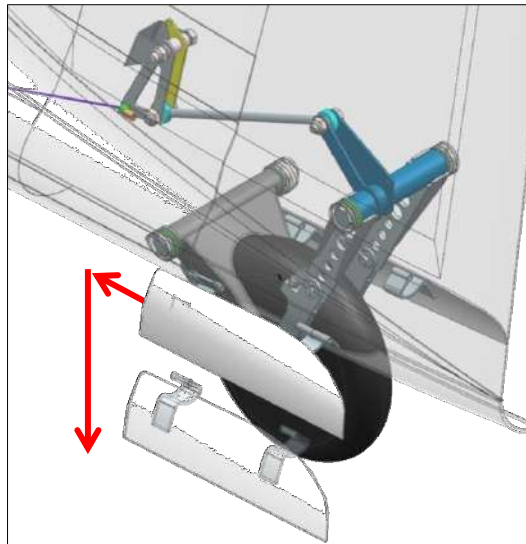

Figure 32-5: Tail wheel doors removal and installation
2. Remove the tail wheel doors by pulling forward until the hinges disconnect, then down (Figure 32-5)